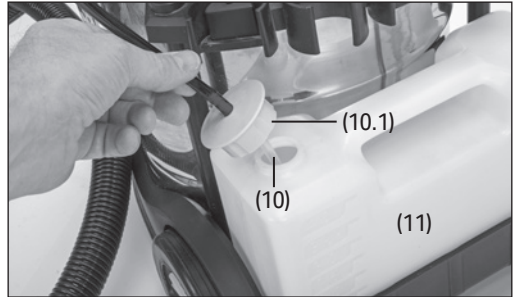
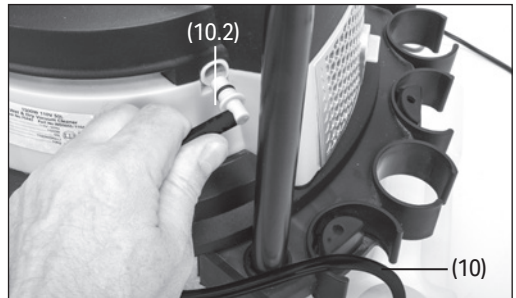

Fig. 19
Fig. 20
10.3 Connecting Shampoo Inlet Hose and Filter (Fig. 19 & Fig. 20)